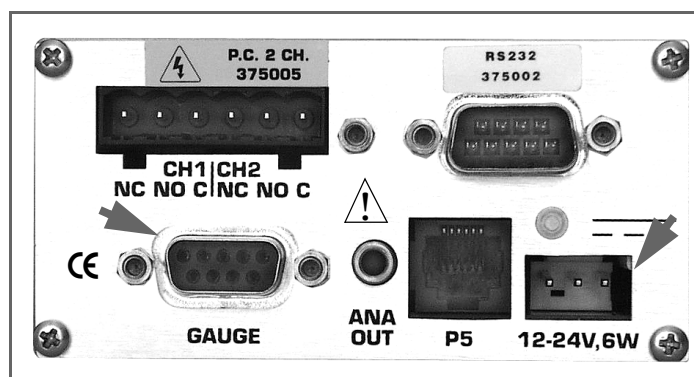

Figure 2-3 Rear Panel of Control Unit Showing Convectron Gauge Cable and Power Connections.
2. Connect the Convectron Gauge cable between the Controller and gauge. See Figure 2-3.